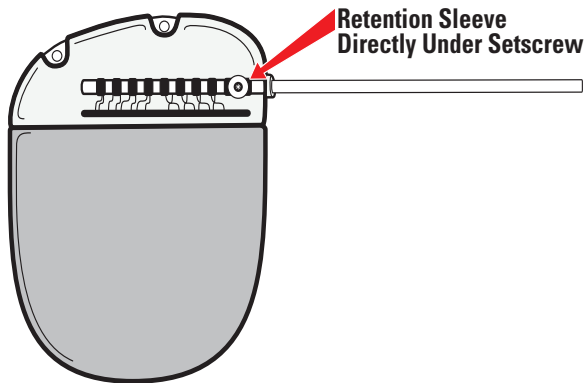

Figure 33. Alignment of Lead Extension Contacts in the DBS IPG Port
5. Visually confirm that the Contacts on the Lead Extension are aligned with the Contacts within the IPG Header. Verify that the Retention Sleeve on the Lead Extension is located directly under the Setscrew in the IPG Port (Figure 33).